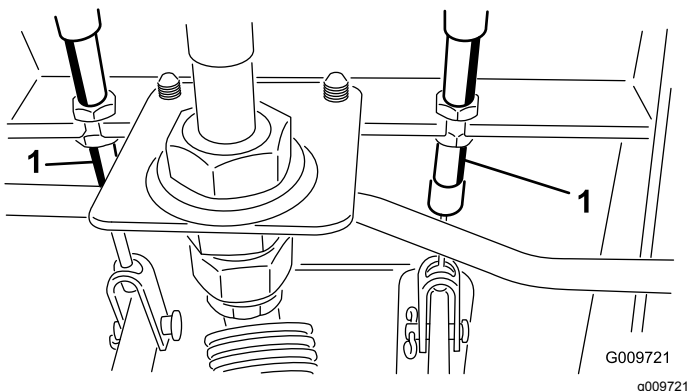

Figure 52
- A. Loosen the front nut on the threaded end of the brake cable (Figure 52).